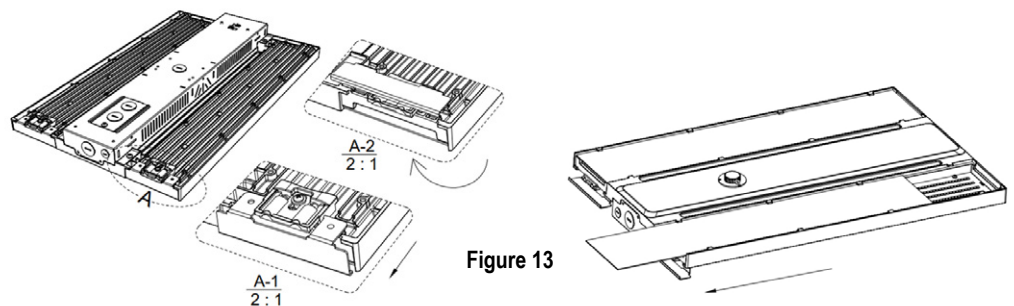

Figure 13
1. Push the retaining clasp with your finger to open the lens retaining plate in a rotating manner so that it falls into the slot of the heatsink. (See Fig. 13)